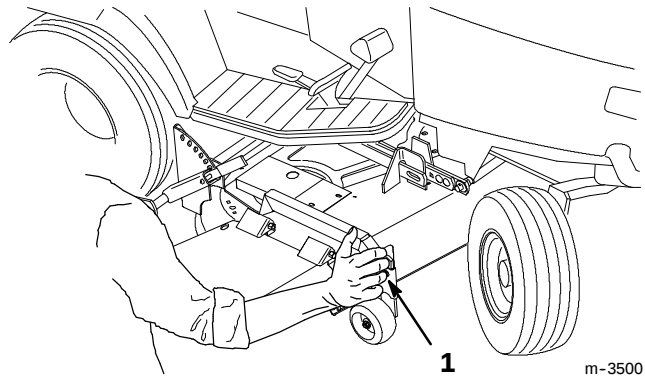

Figure 7
8. After the two J-pins are seated through the mower's mounting brackets, using the attachment lift and your hand on the right front adjustable mower wheel bracket (Fig. 7), position the mower so its attachment bar fits into the mid Attach-A-Matic **t** mount.